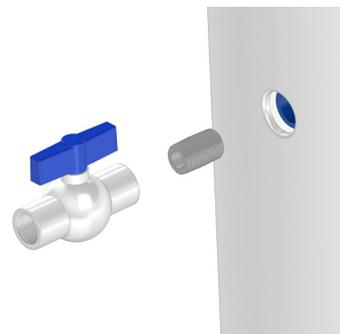

Figure 7a
2. Connect part D, ball valve, and part G, closed nipple to the drain port to complete the feeder assembly (figure 7a & 7b).